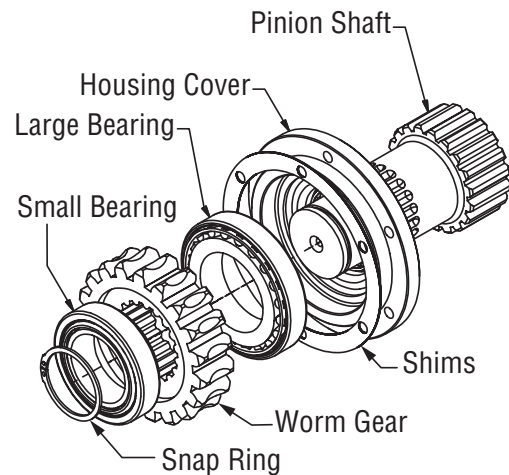

Figure 5-20, Pinion Shaft Assembly
16. Install the pinion shaft assembly and shims (if applicable). (Figure 5-20)